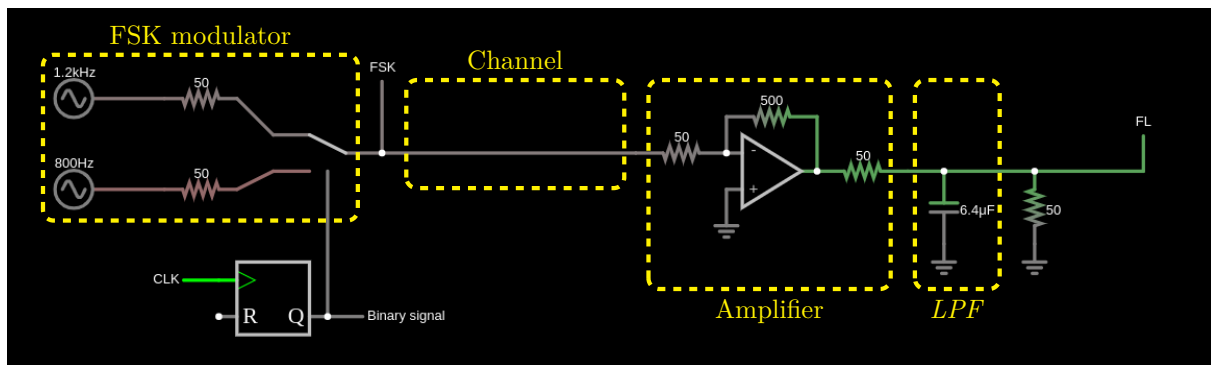

Figure 1: FSK with a low pass filter to discriminate frequencies.
2. Obtain, by means of circuit analysis, the following properties of the low pass filter used in the circuit shown in the Figure 1:
In order to avoid interference and, most importantly, noise, it was decided to add a bandpass filter between the *Channel* block and the *Amplifier* block in the circuit shown in Figure 1.